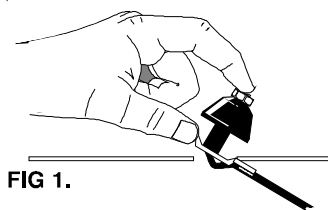

FIG 1.
5. Insert the "toe" of the baseplate into the hole at an angle (Fig.1).